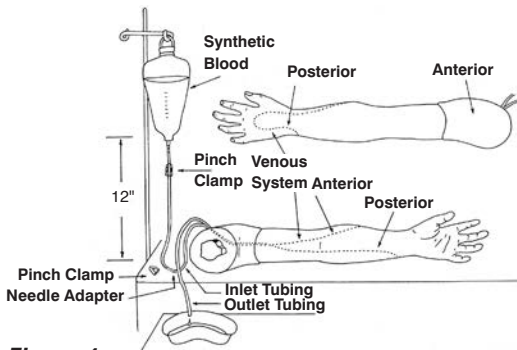

Figure 1
(See **Figure 1.**) Internally, the vascular structure (rubber tubing) begins at the shoulder and continues under the arm, crosses the antecubital fossa forearm, makes a loop in the back of the hand, and then returns to the underarm. This venous system is constructed of special self-sealing plastic tubing, with the lumen being the approximate size of a human vein. This vascular structure has inlet tubing and outlet tubing at the shoulder, and it is via these tubes that synthetic blood is injected and removed. Thus, the techniques of blood drawing and starting intravenous infusions may be practiced on the Injectable Training Arm.
7. After filling the venous system according to instructions, the arm is now ready to practice drawing “blood.” “Blood” can be drawn anywhere along the pathway of the vein. (**See figure 1.**) **Distilled water** should be used to prepare the sites. Synthetic blood will actually be aspirated once the vein is properly punctured.